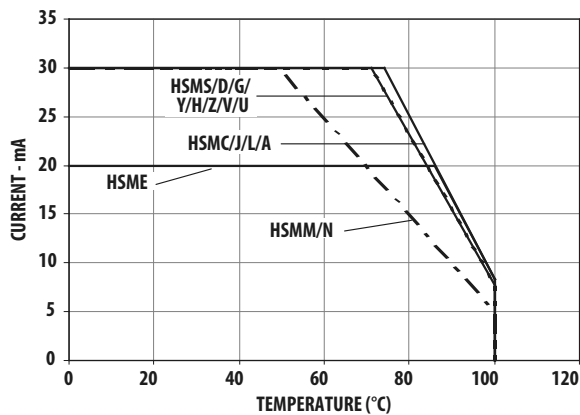

Figure 4. Maximum forward current vs. ambient temperature. Derated based on  $T_{jMAX} = 110^{\circ}C$ ,  $R\theta_{JA} = 500^{\circ}C/W$ .
1. Derate linearly as shown in Figure 4.